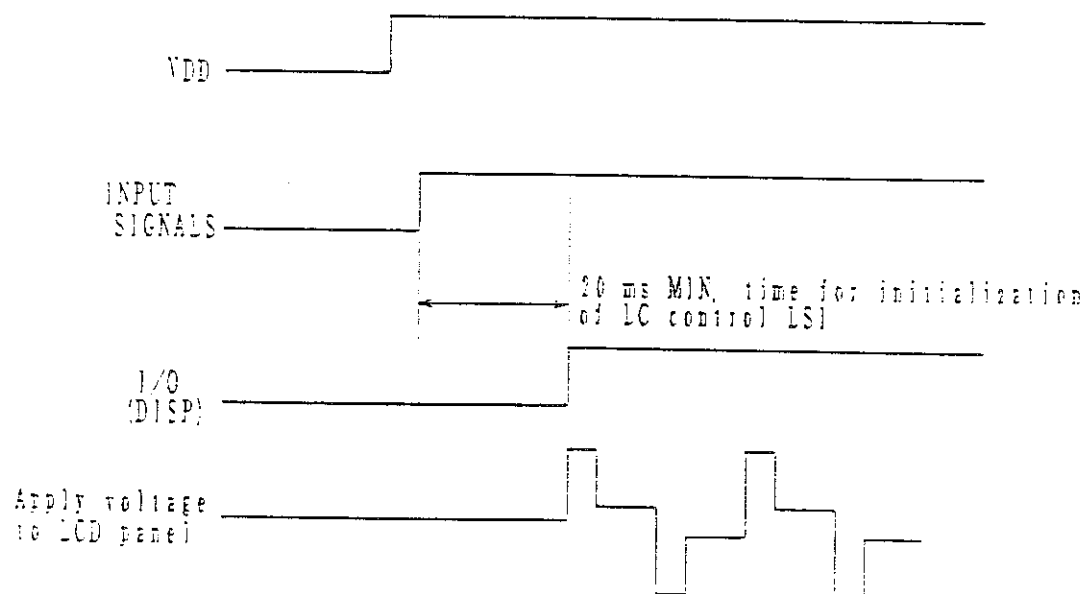

Fig. 5 Timing chart without DC apply to the LCD panel (2)
Connect I/O port of micro-computer in the main system with DISP and control it. Until initialization of LC control LSI is finished after power ON, signal(M) isn't generated, so that DC voltage is applied to the LCD panel. (Refer to Fig.3.) During this time, switch I/O port(DISP) to 'L' and force apply voltage to the LCD panel into 0V. After initialization of LC control LSI, switch I/O port(DISP) to 'H', so that the LCD panel is returned to the normal driving voltage. (Refer to Fig.5.)